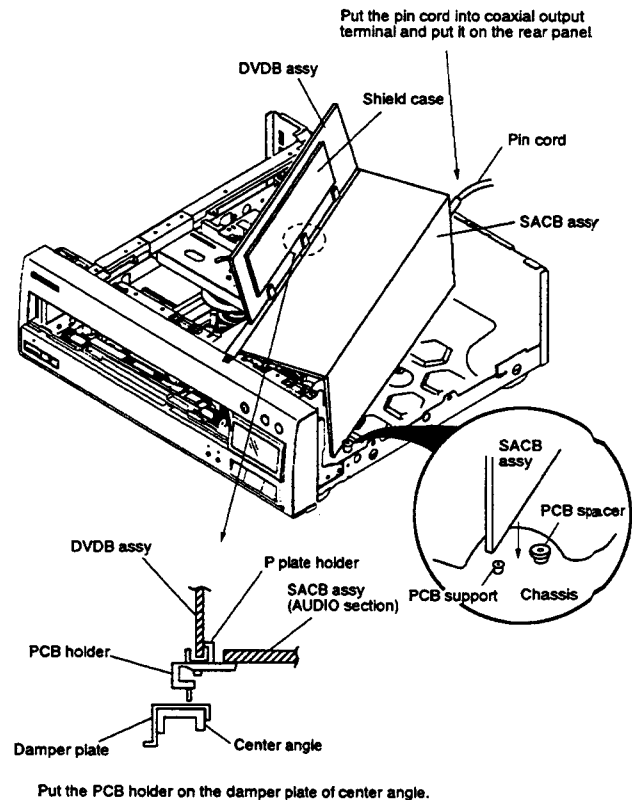

Fig. 10
- As shown in Fig. 10, fit the SACB assy between PCB spacer and PCB support on the chassis and standing it against the inside of the chassis, the back of the PCB (pattern side) can be diagnosed.